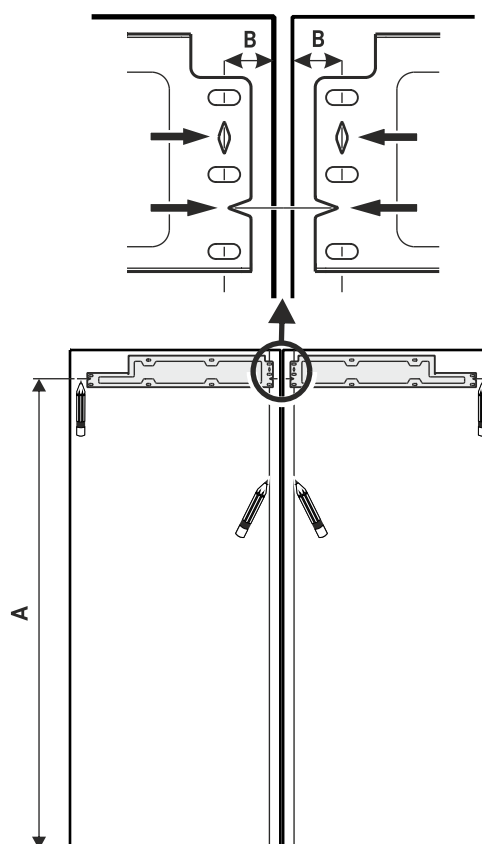

Fig. 27
- ▶ Mark the line at distances *Fig. 27 (A)*.
- ▶ Mark a line at a distance *Fig. 27 (B)* from the inside of the unit front.
- ▶ Align each mounting bracket to the distance *Fig. 27 (A)* and attach it with at least six 4x16 screws.